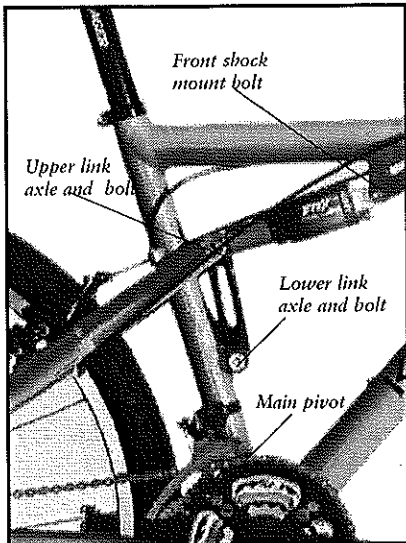

Fig. P1
1. Remove the upper link bolt and axle (Fig. P1). Be careful not to let the shock swing down and hit a frame tube.